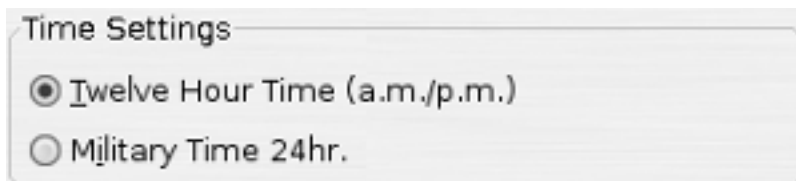

Figure 11.12. Time Settings
2. Under the "Timer Settings" section select the option "Twelve Hour Time(a.m./p.m.)" for standard 12 hour time, or "Military Time 24 Hrs" for displaying time values in 24 hr military time see Figure 11.12, "Time Settings"